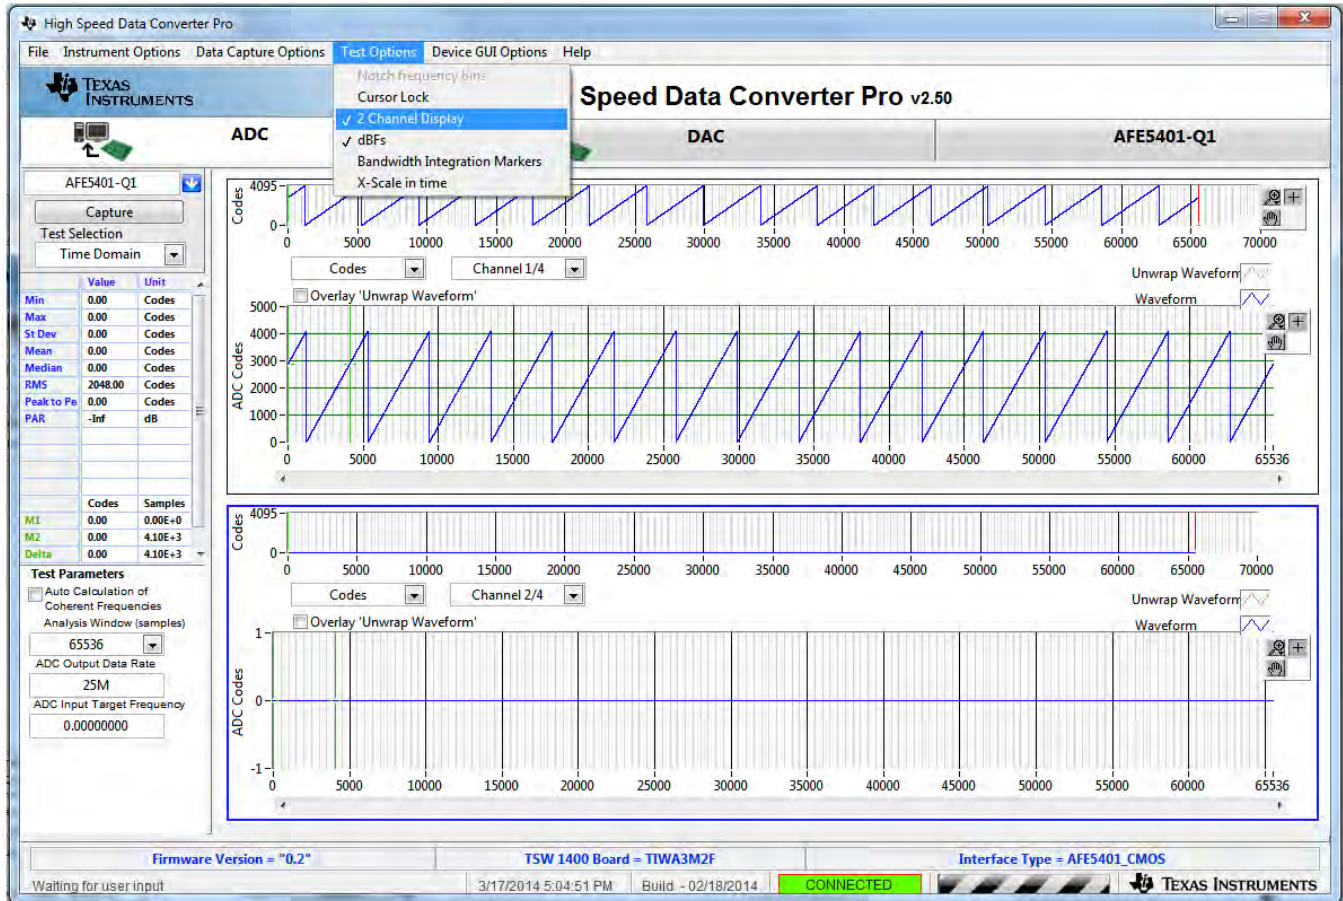
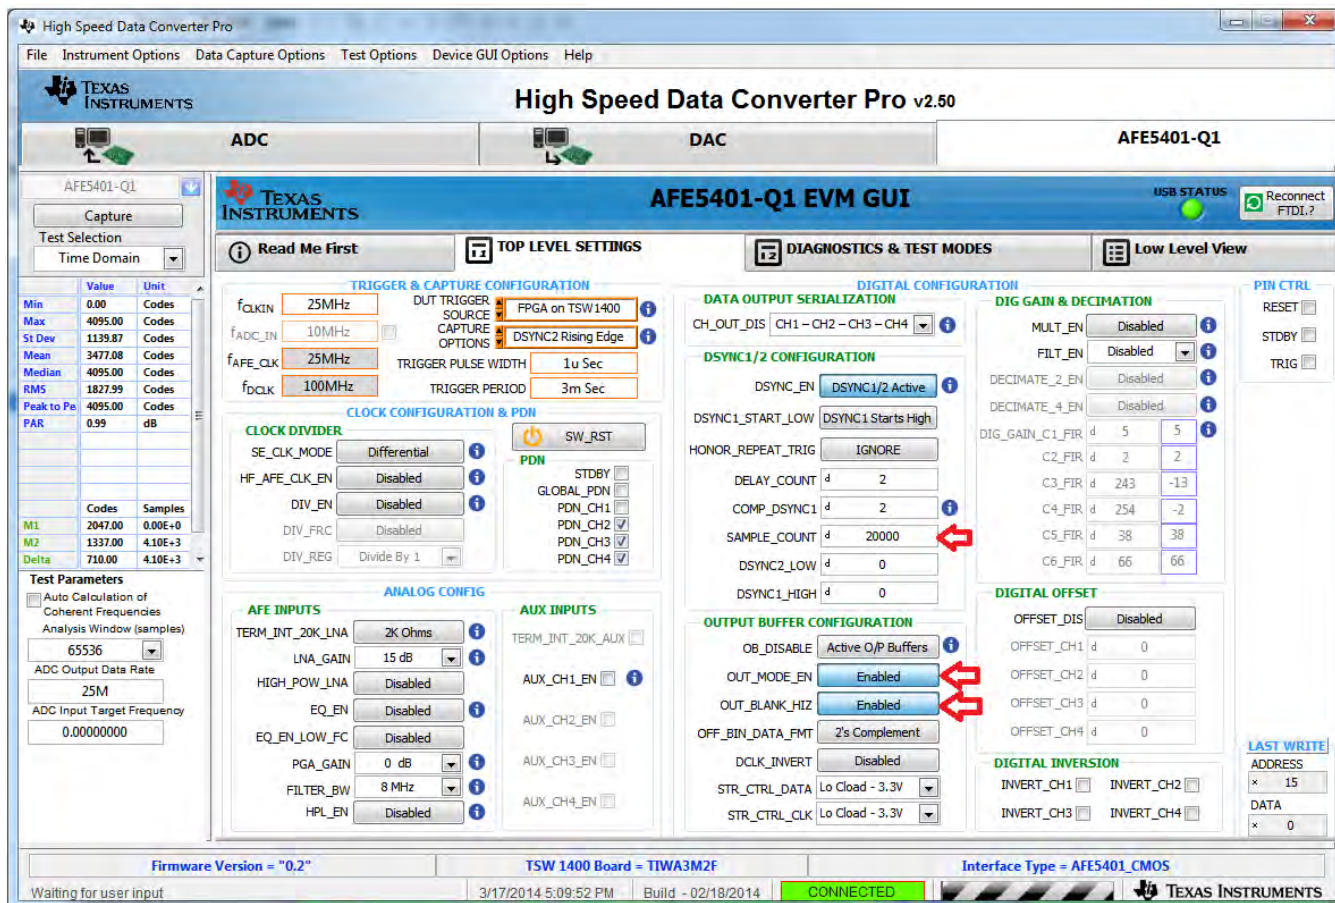
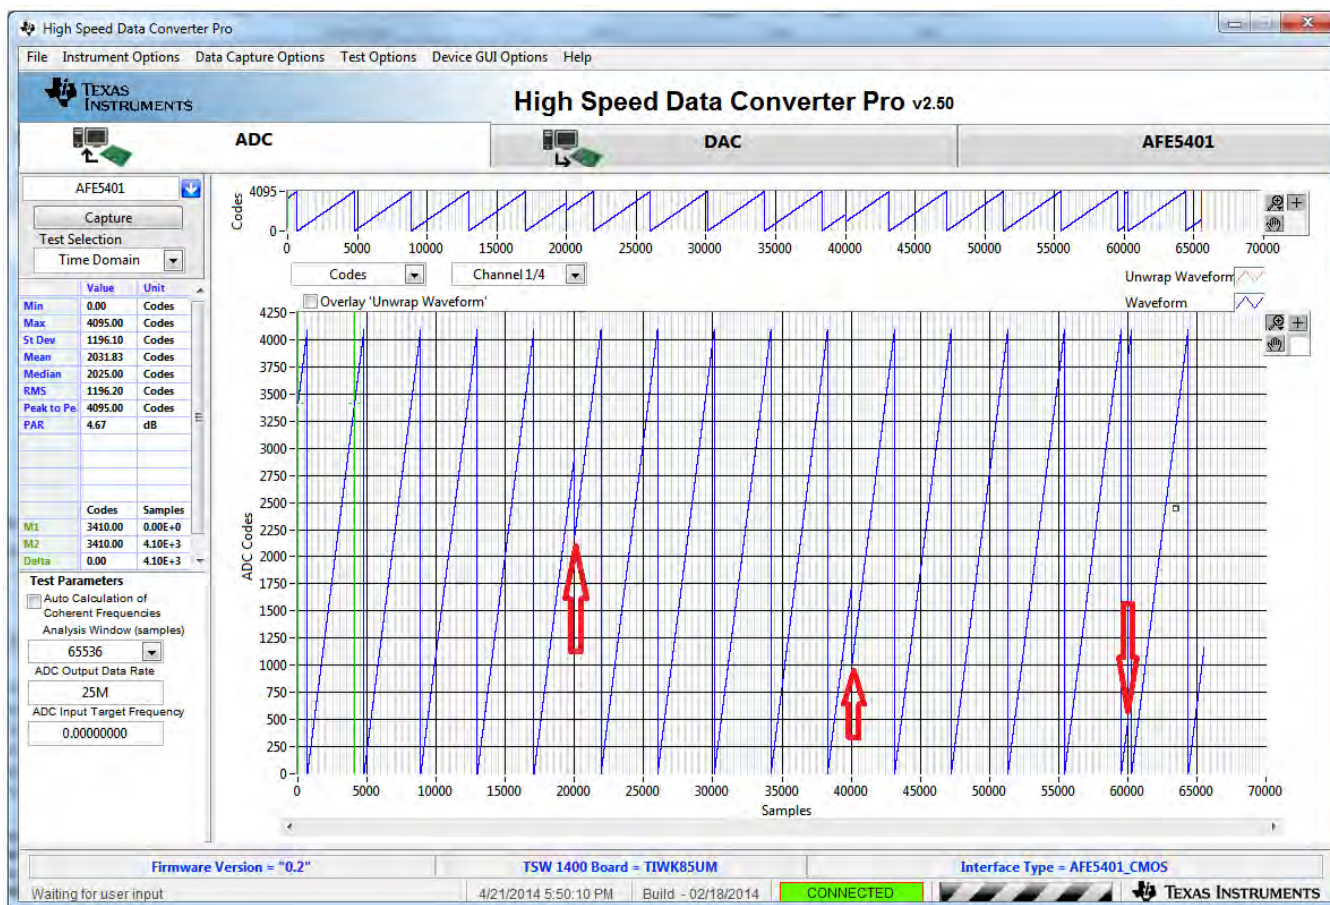

Figure 76. FPGA DSYNC2 Rising Edge Triggered RAMP Capture (b)
Figure 77. FPGA DSYNC2 Rising Edge Triggered RAMP Capture (c)
Figure 81. FPGA DSYNC2 Active High Triggered RAMP Capture (g)
From the ADC tab of the GUI press the *Capture* button to see the captured RAMP function. Because *DSYNC\_EN* is enabled and a trigger is being provided to the AFE5401-Q1 TRIG pin, the DYSNC1 and DSYNC2 outputs are generated. The FPGA firmware uses the DSYNC2 rising edge to 'mark' the start of a serialization. Therefore, the position of the channel data is known and can be displayed in its proper channel within *HSDCpro*, whereas, this was a random process when *DSYNC\_EN* was disabled. Figure 76 illustrates this by displaying channels 1 and 2 simultaneously by using the *Test Options* drop-down menu in *HSDCpro*.
The RAMP captured in Figure 76 shows no discontinuities because **OUT\_MODE\_EN** is disabled. With **OUT\_MODE\_EN** enabled and **OUT\_BLANK\_HIZ** enabled there are two mechanisms that would cause a discontinuity: (1) if **SAMPLE\_COUNT** is less than the number of samples being captured and displayed in *HSDCpro*, default set to 65536 samples or (2) if a trigger occurs before the capture of the 65k samples. Figure 77 shows the GUI setup with **OUT\_MODE\_EN** and **OUT\_BLANK\_HIZ** enabled with the **SAMPLE\_COUNT** set to 20,000 samples.
This receiver implementation is designed to capture data only during the active high state of the DSYNC2 output signal. With the GUI in the same state as that shown in Figure 77, with the exception of **CAPTURE OPTIONS** now set to *DSYNC2 Active High*, a capture displayed in Figure 81 illustrates the **BLANKING PHASE** has been eliminated. Discontinuities in the captured waveform at multiples of the **SAMPLE\_COUNT** correspond to the time when the DSYNC2 output signal goes low and when the subsequent DSYNC2 signal (generated from the subsequent trigger) goes high. With this implementation the **OUT\_MODE\_EN** and **OUT\_BLANK\_HIZ** controls become obsolete as the data during this time is ignored by the receiver.